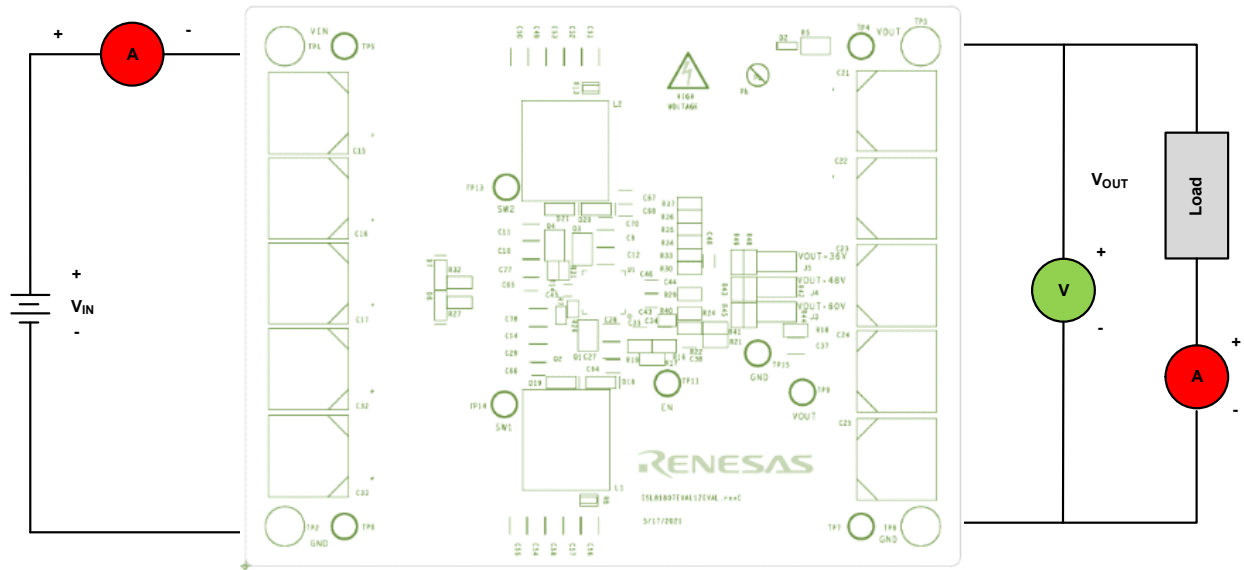

Figure 3. Proper Test Setup
As shown in Figure 3, 12V to 36V V_{IN} is supplied to TP1(+) and TP2 (-). The regulated output on TP3 (+) and TP8 (-) can supply up to 240W to the load. Because of the high-power efficiency, the evaluation board can run at 240W continuously without airflow at ambient room temperature conditions.
1. Add a jumper to J4 and leave the J3, J5 empty. See Table 2 for the operating options. Ensure that the circuit is correctly connected to the supply and electronic loads before applying any power. See Figure 3 for the proper setup.